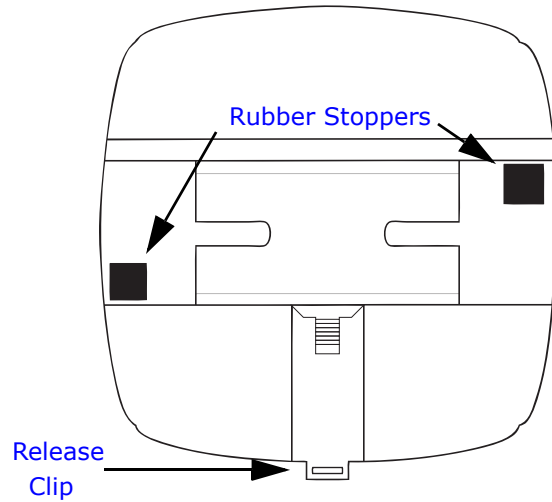

Figure 3.10: DIN Rail Detail
**NOTE:** If mounting with the DIN Rail provided, use the Black Rubber Stoppers (also provided). See Figure 3.10.